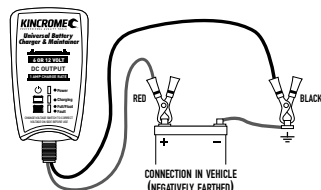

Fig. 2
- FIRST Connect the RED (+) Crocodile clip or ring terminal lead to the positive (+) battery terminal and then connect the BLACK (-) Crocodile clip or ring terminal lead to the vehicle's chassis (Fig. 2).